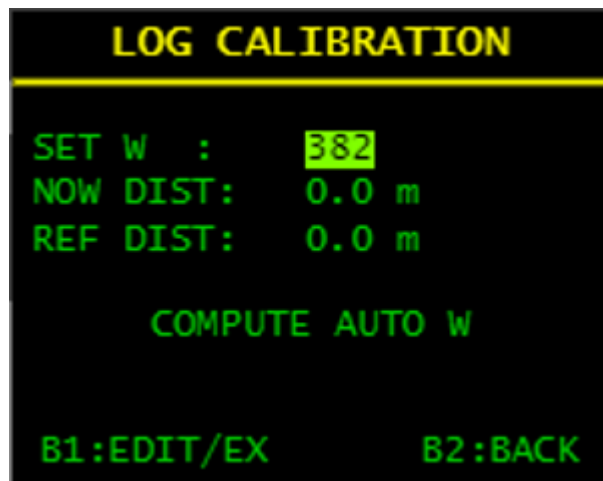

Fig 95 - Log calibration
- B2** Short press to scroll the following data (**Fig 95 - on p. 45**):